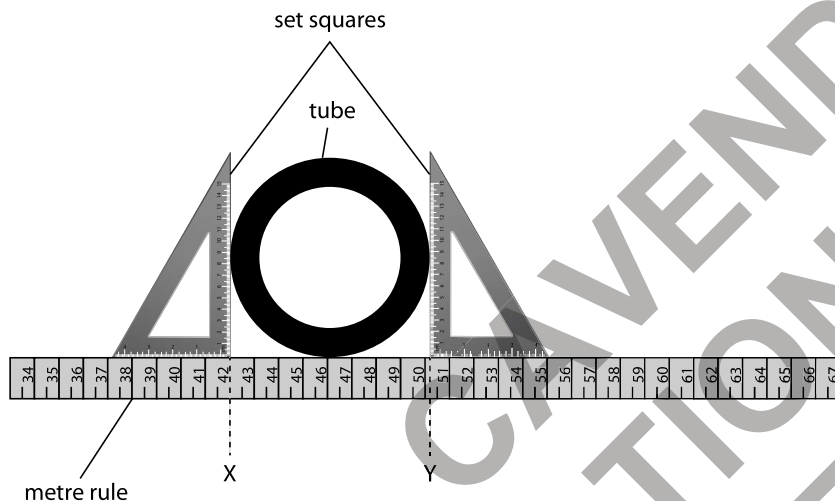

Figure 1.3
- 3 Place the two set squares against the outer edges of the tube, as shown in Figure 1.3. Make sure they are touching the tube and aligned with the metre rule as shown.
- 4 Record the readings where the set squares touch the metre rule, marked X and Y in Figure 1.3.